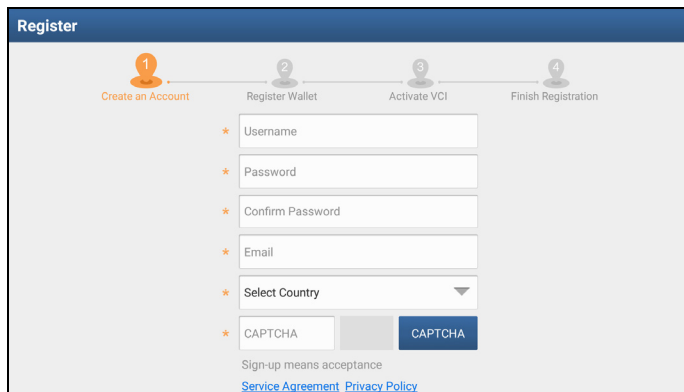

Fig. 4-3
A. If you are a new user, tap "New Registration" to enter sign-up page. See Fig. 4-3.